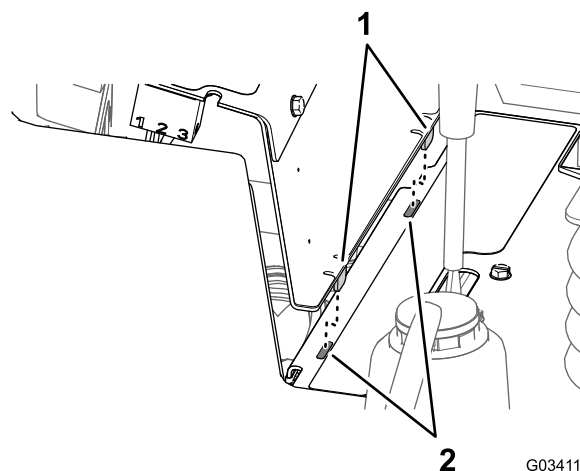

Figure 58
2. Align the 2 tabs at the bottom of the side panel with the 2 slots in the frame for the console (Figure 58).